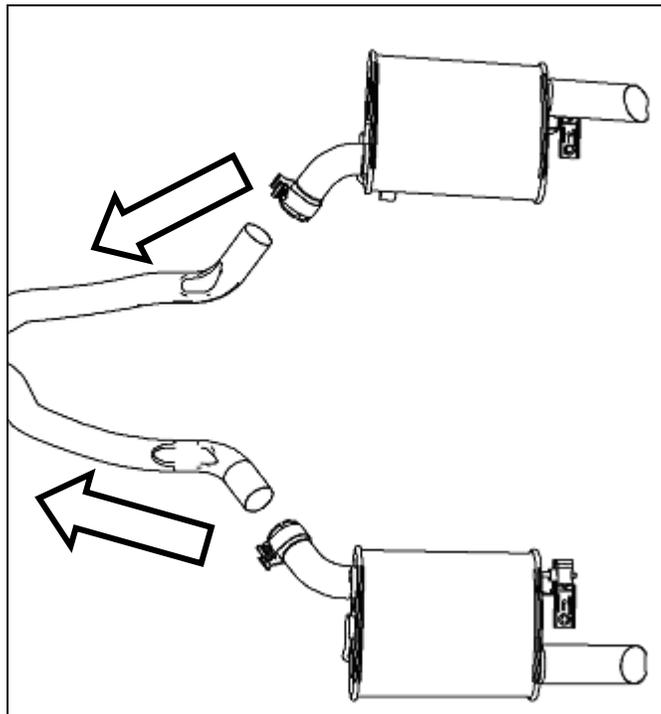

Figure 4
- Slide each midpipe out of the muffler flanges and remove both midpipes from the vehicle. Refer to Figure 4.